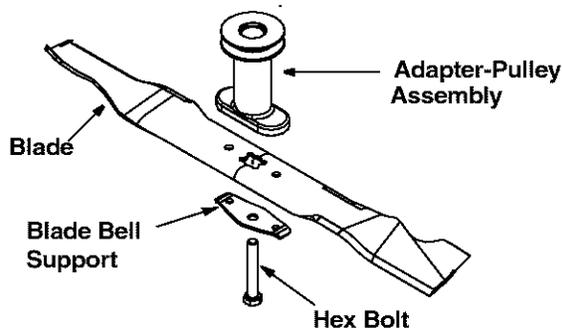

Figure 12
- Remove the hex bolt which holds the blade adapter-pulley assembly to the engine crankshaft. See Figure 12. Remove the pulley assembly and the bell support from the crankshaft.